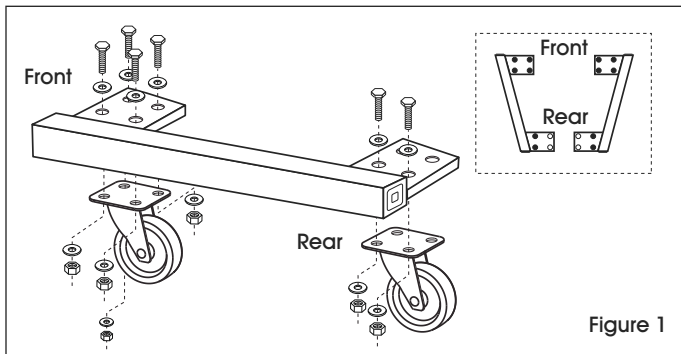

Figure 1
2. Attach front casters using one bolt, one nut and two washers per hole. (See Figure 1)